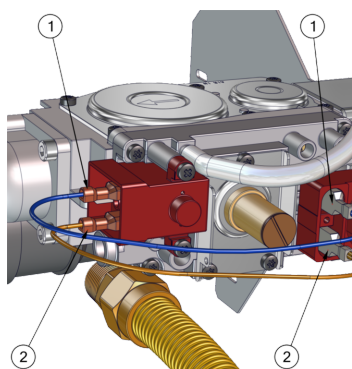

Figure 51 *Connector wires*
4. Disconnect the gas valve wiring, and pull out the connectors by gripping the plastic tip, rather than the wire, to avoid breaking the connector (see ① and ② in Figure 51). Note the position of the colored wires; do not cross the colored wires upon reconnection (e.g., blue on top).